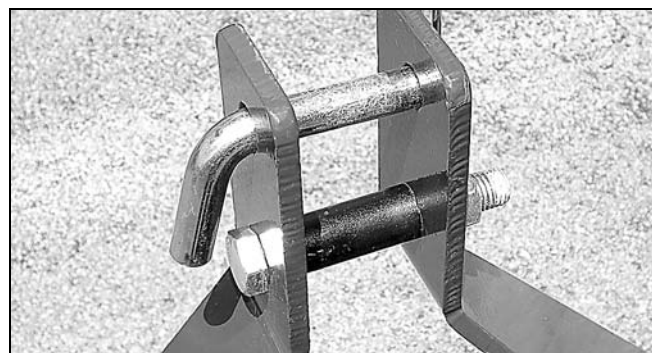

Figure 1. Attaching Box Scraper
■ The 3/4" bolt and sleeve in lower hole provide strength to the box scraper. Do not remove this bolt and sleeve when operating the box scraper. See Figure 1.